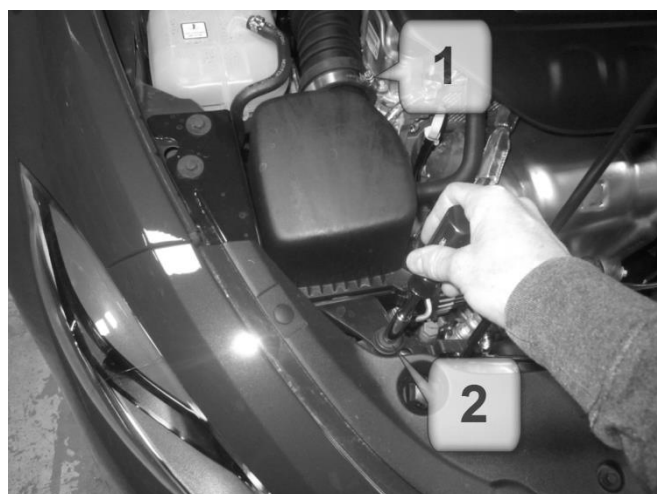

Figure 1
1. Loosen band clamp securing intake duct to upper airbox using an 8mm socket driver (Figure 1, 1).
2. Remove bolt mounting lower airbox to vehicle chassis using a 10mm socket driver (Figure 1, 2).